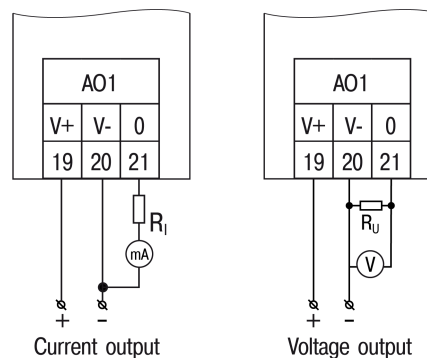

Fig. B.4 Output calibration
1. Connect the measuring device and the voltage source to the output depending on the configured output signal (Fig. B.4).